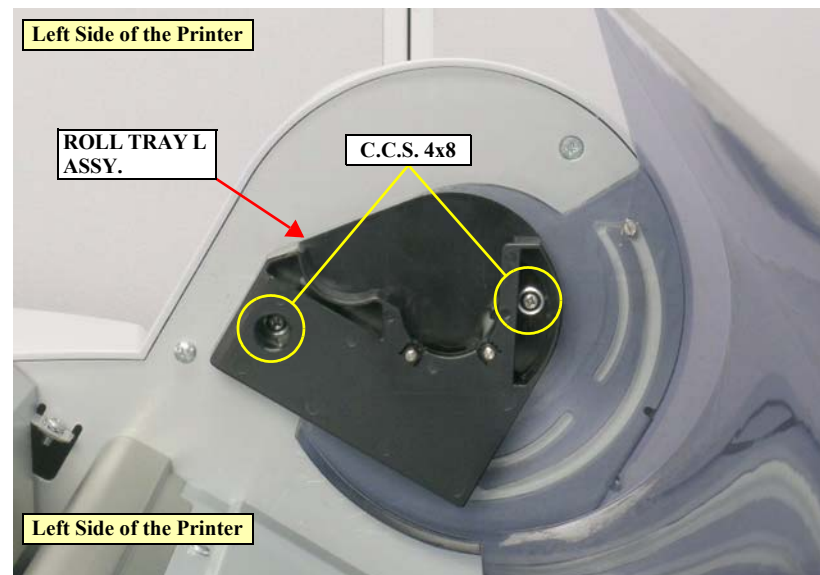

Figure 4-28. Removing the ROLL TRAY L ASSY.
2. Remove the two screws that secure the ROLL TRAY L ASSY. and remove it. *See Figure 4-28.*